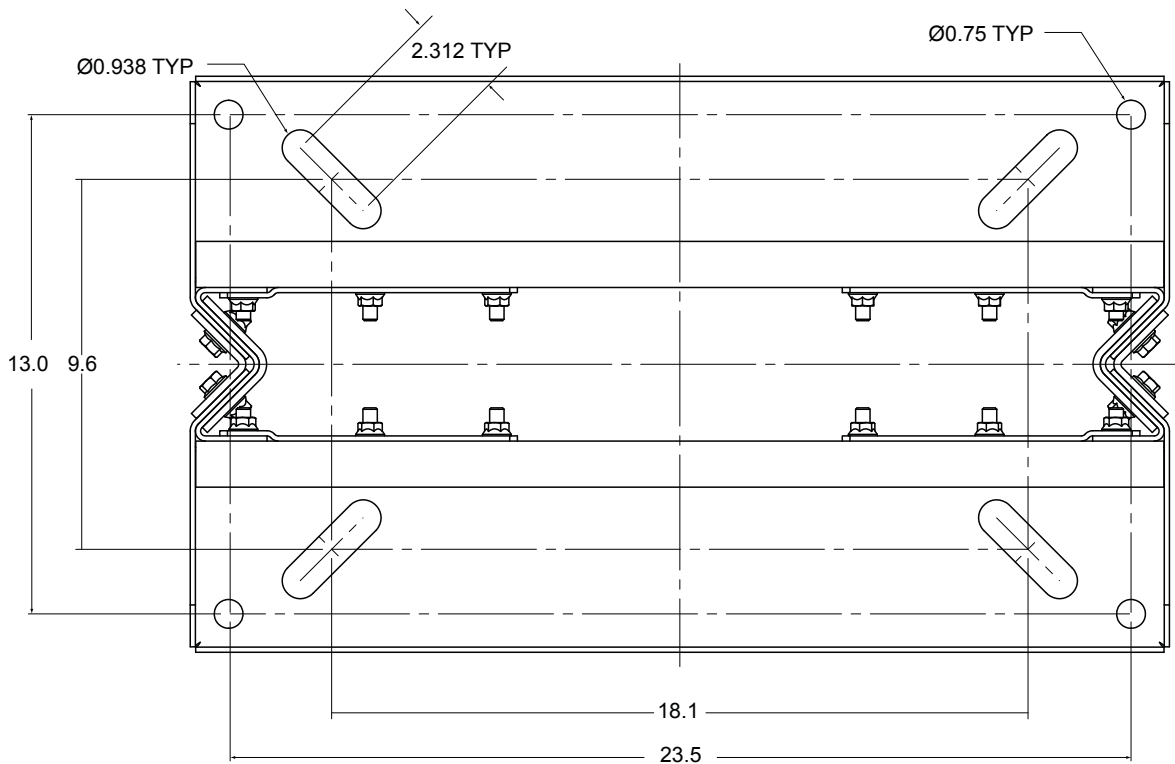

Figure 17 — Template for anchoring bolts
Figure 17 shows the dimensions and bolt locations of a single bay. An anchoring kit is provided with hardware for the slots
3. Refer to Figure 17 (drawing 0300047-06) to mark the four anchor hole positions for standard anchoring or eight anchor hole positions for seismic anchoring.